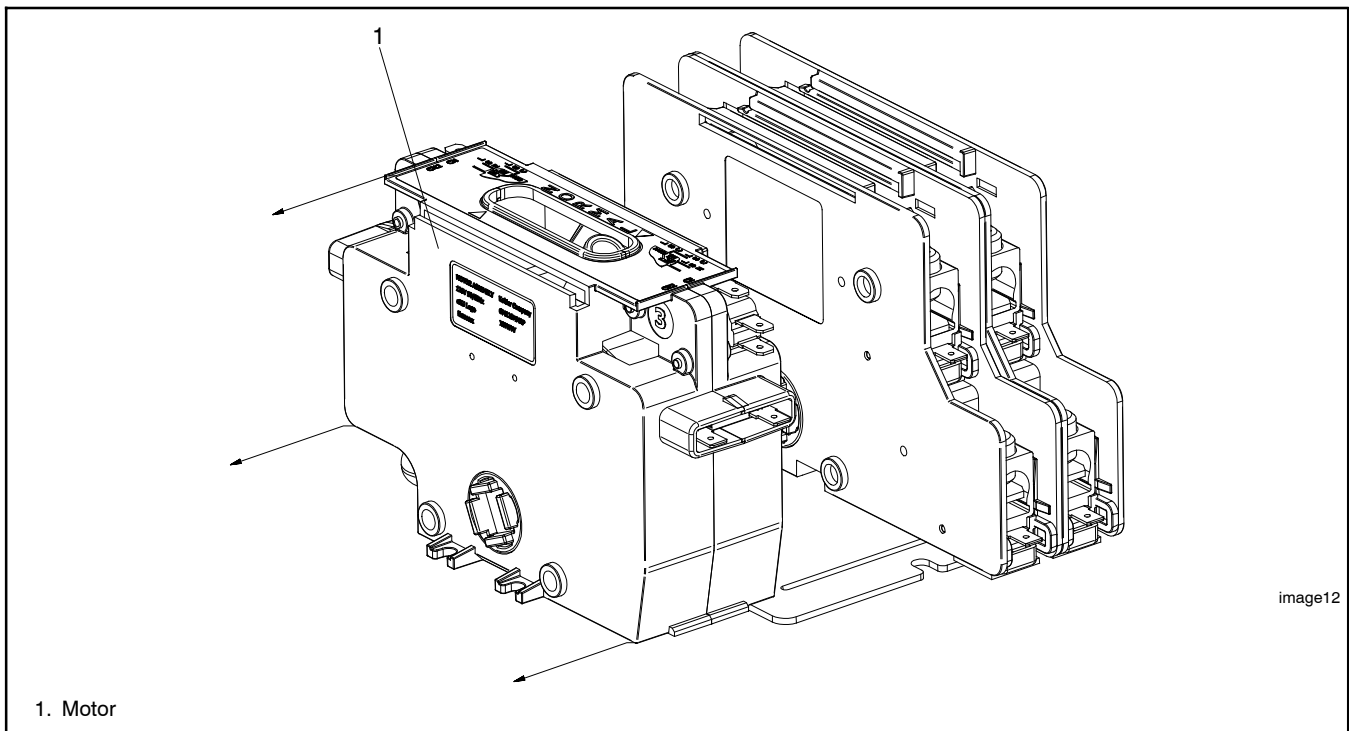

Figure 7-25 Removing the Motor
5. Firmly pull the motor away from the power poles. See Figure 7-25.